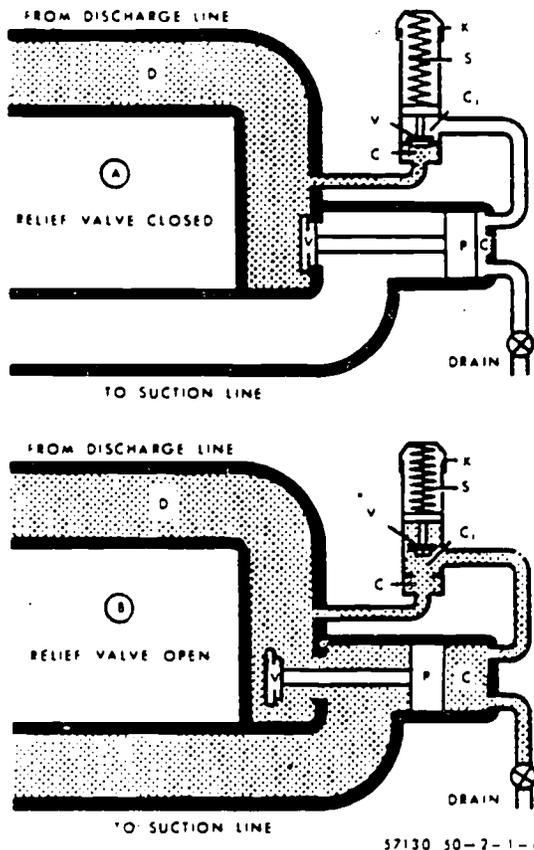

Figure 3-3. Relief valve.
Automatic Relief Valve. The automatic relief valve, shown in figure 3-3, opens automatically during excessive surges of pressure from the discharge side of the pump. The valve can be adjusted beforehand to the maximum pressure desirable for a particular operation. There are several types of automatic re-
In a typical arrangement of an automatic relief valve, water from the discharge side of the pump holds closed a valve (V), blocking the passage to the intake chamber in part A of figure 3-3. Just above this valve in the diagram is the opening of the control line. Water under pressure from the discharge side is prevented from flowing through the control line by a valve (V) held closed by the tension of its spring (S). The resistance of the valve (V) to the water pressure may be changed by turning the screw control cap (K). Figure 3-3, part B, shows what happens when the discharge pressure exceeds the pressure at which the spring tension is set. The valve (V) opens, permitting water to flow into the chamber (C) and through the connecting tube to the chamber (C') of the relief valve proper.